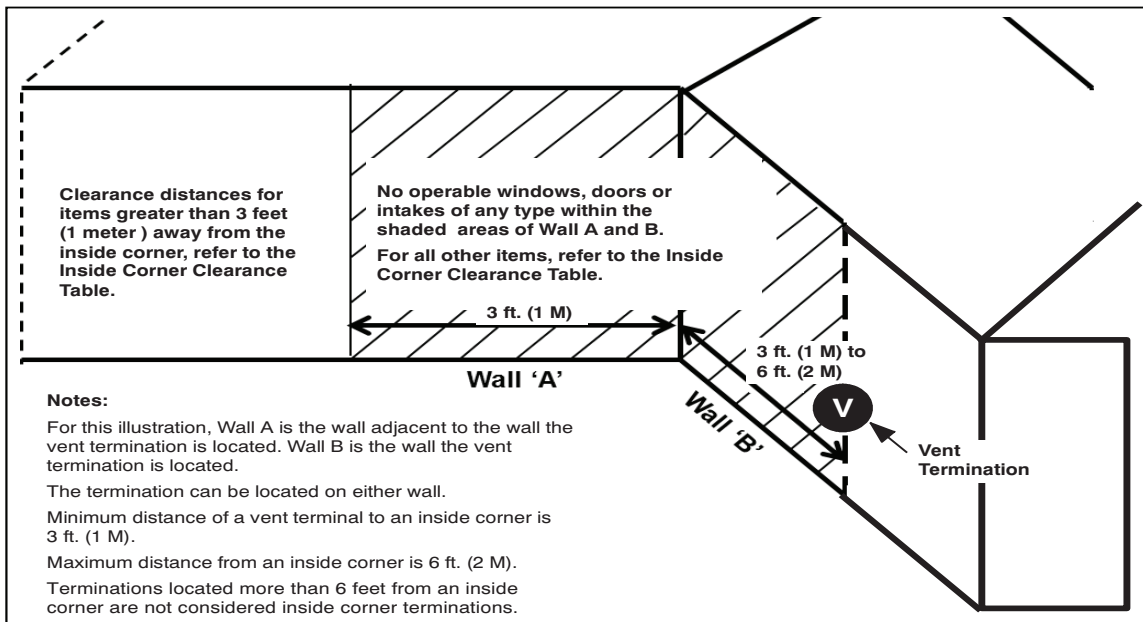

Fig. 45 – Inside Corner Termination
2. The vent termination must be located at least 3 feet from an inside corner and follow the clearance distances in the Inside Corner Termination drawing. See Fig. 45.